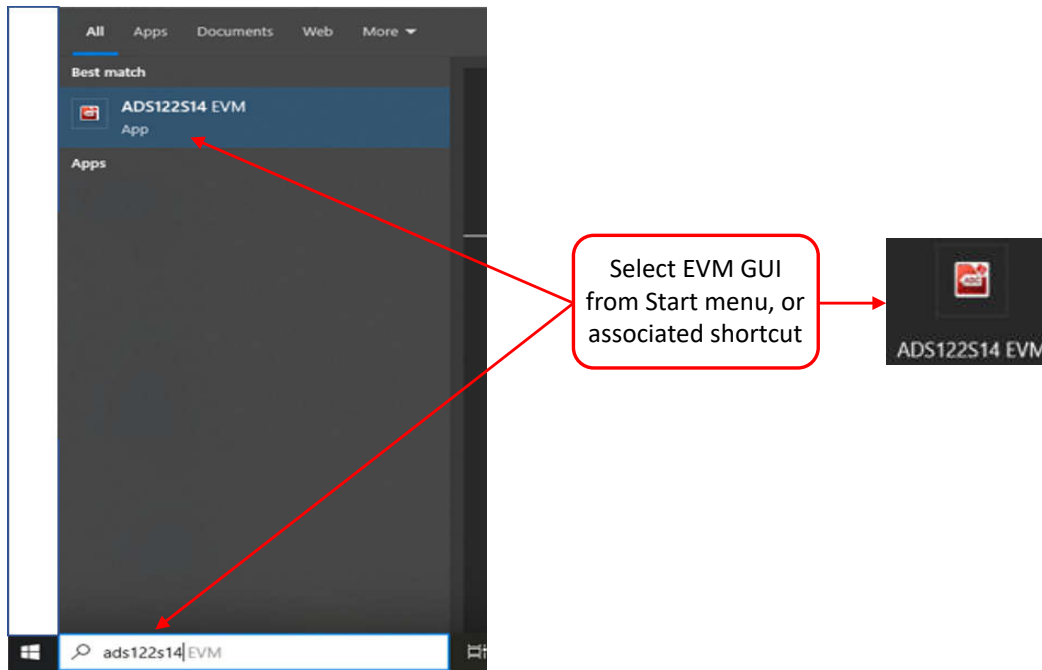

Figure 4-2. Launch the ADS122S14EVM GUI
6. Launch the GUI software by using the start menu as shown in Figure 4-2 or the installed icon. Check if the *Connected* indicator in the lower right corner in the GUI is green which indicates the ADS122S14EVM and PAMB controller card are successfully connected and communicated with the GUI. If the indicator is gray, check the *Demo Mode* in the upper right corner of the GUI, then uncheck the mode to switch back to normal data capture mode.